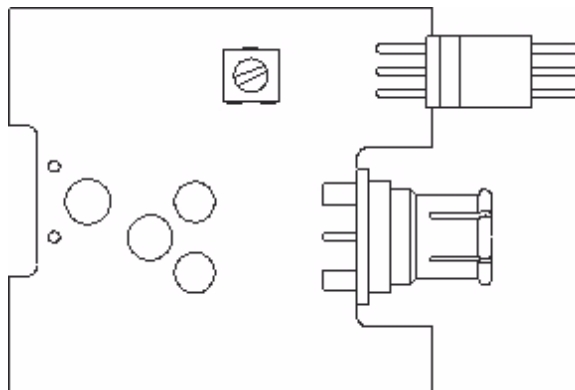

Figure 8-2. Adjustment Locations
6. Adjust **OUTPUT ZERO** on the board until the DMM reads 0 V ± 100 μ V. Refer to Figure 8-2 for adjustment location.